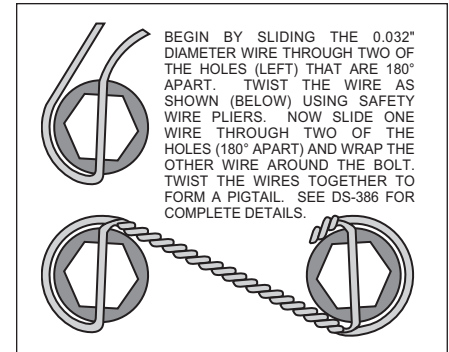

Figure 3. Safety Wire Diagram
•With the larger I.D. side of the rotor (6) facing away from the hat (7), bolt rotor (6) to the hat (7) through the backside of the rotor using washers (8) and bolts (9). Torque bolts (9) in an alternating sequence to 85 **in-lb**. Safety wire bolts (9) using standard 0.032 inch diameter stainless steel safety wire as shown in Figure 3. Please refer to Wilwood's data sheet DS-386 (available at www.wilwood.com/pdf/ds386.pdf) for complete safety wire installation instructions. Slide the rotor/hat assembly onto the spindle. Check to be sure the hat seats squarely against the hub. Install a couple of lug nuts (finger tighten) to keep the rotor/hat assembly in place while continuing with the installation.
•Install washer (14) over each pre-installed stud (13) on the radial mount bracket (1). Slide the caliper (10) in place over the studs and rotor, then install the washer (12) and lock nut (11) to hold the caliper in place. The caliper bleed screws should be pointing up. Snug the lock nuts (11) and check that the rotor (6) is centered in the caliper (10). Add or subtract .029" shims (3) as necessary between the caliper mounting bracket (1) and the spindle to center the caliper (10).
•Remove the caliper center bridge pad retainer bolt, nut, and tube from the caliper. Slide the brake pads (15) into place. They should install easily without interference. Check that the outside radius of the brake pad is aligned with the outside diameter radius of the rotor face. Add or subtract shims (14) between the caliper (10) and mount bracket (1) to gain the proper alignment. Reinstall the center bridge pad retainer tube, bolt, and lock nut. The lock nut should be snug without play in the bolt or tube. Be cautious not to over tighten.
•Once all clearances have been checked, remove the wheel, caliper, hat, and rotor from the spindle and hub. Secure the caliper mounting bracket (1) to the spindle with bolt (2), washers (3), lock washer (4) and nut (5) as done previously using red *Loctite*® 271. Torque bolt (2) to 75 ft-lb. Reinstall the hat and rotor assembly and again using two lug nuts (finger tighten) to hold it in place. Lubricate caliper mounting studs and nuts with lightweight oil, reinstall the caliper, torque the caliper nuts (11) to 30-35 ft-lb.